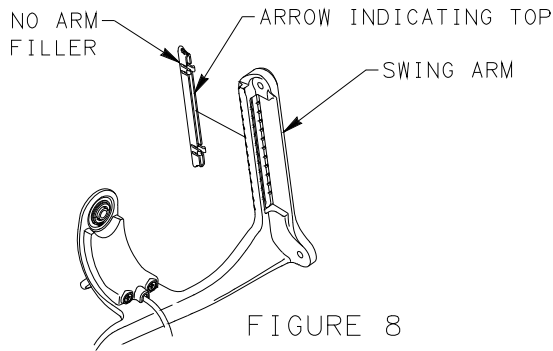

FIGURE 8
-NO ARM FILLERS: USING STRAIGHT HEAD SCREWDRIVER, PUSH OUT NO ARM FILLER FROM SWING ARM AND SET ASIDE. SEE FIGURE 8.
-NO ARM FILLER: NOTE ARROW INDICATING TOP OF NO ARM FILLER. INSERT NO ARM FILLER INTO SWING ARM UNTIL SNAPPED INTO PLACE. SEE FIGURE 8.